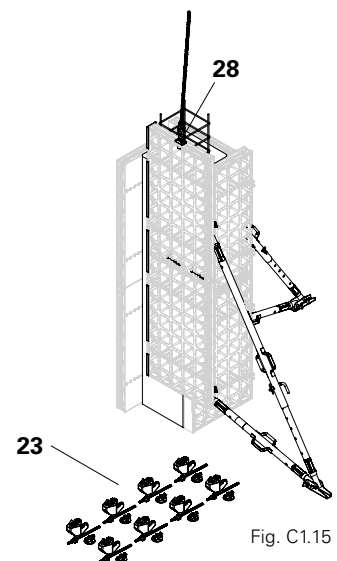

Fig. C1.15
1. Attach two-sling lifting gear to the crane eye (28) in the formwork half without push-pull props. (Fig. C1.15)
2. Loosen and remove the DUO corner connector (23) from the formwork halves.
1. Attach the crane hook to the DUO crane eye (28) in the panel element without push-pull props. (Fig. C1.15)